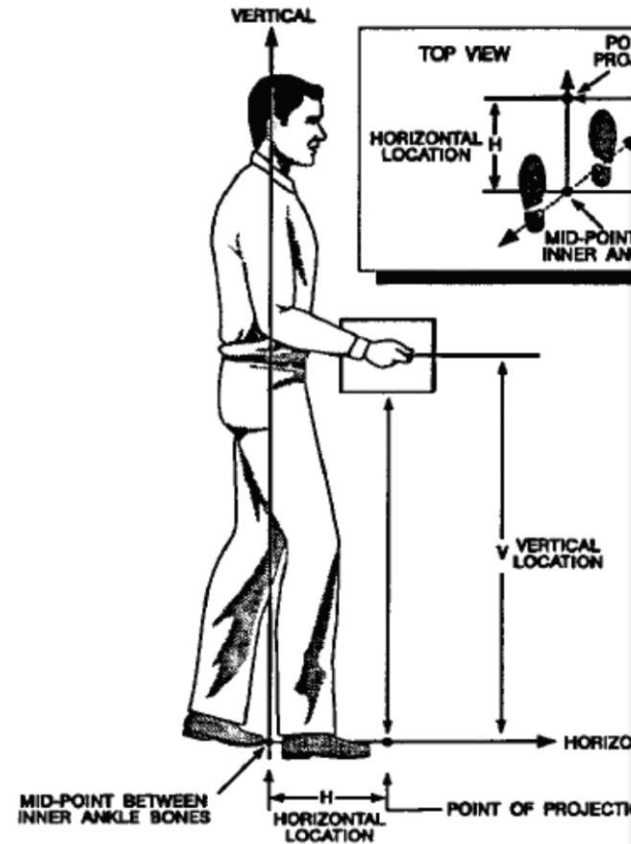

Figure 1 Graphic Representation of Hand Location
Horizontal Location (H) Distance of the hands away from the ankles, in inches (measure at the origin and destination of lift). See Figure 1.
Vertical Location (V) Distance of the hands above the ankles, in inches or centimeters (measure at the destination of lift). See Figure 1.
Asymmetry Angle (A) Angular measure of how far the *object* is displaced from the front (mid-sagittal plane) of the worker's body at the beginning or ending of the lift. See Figure 1.